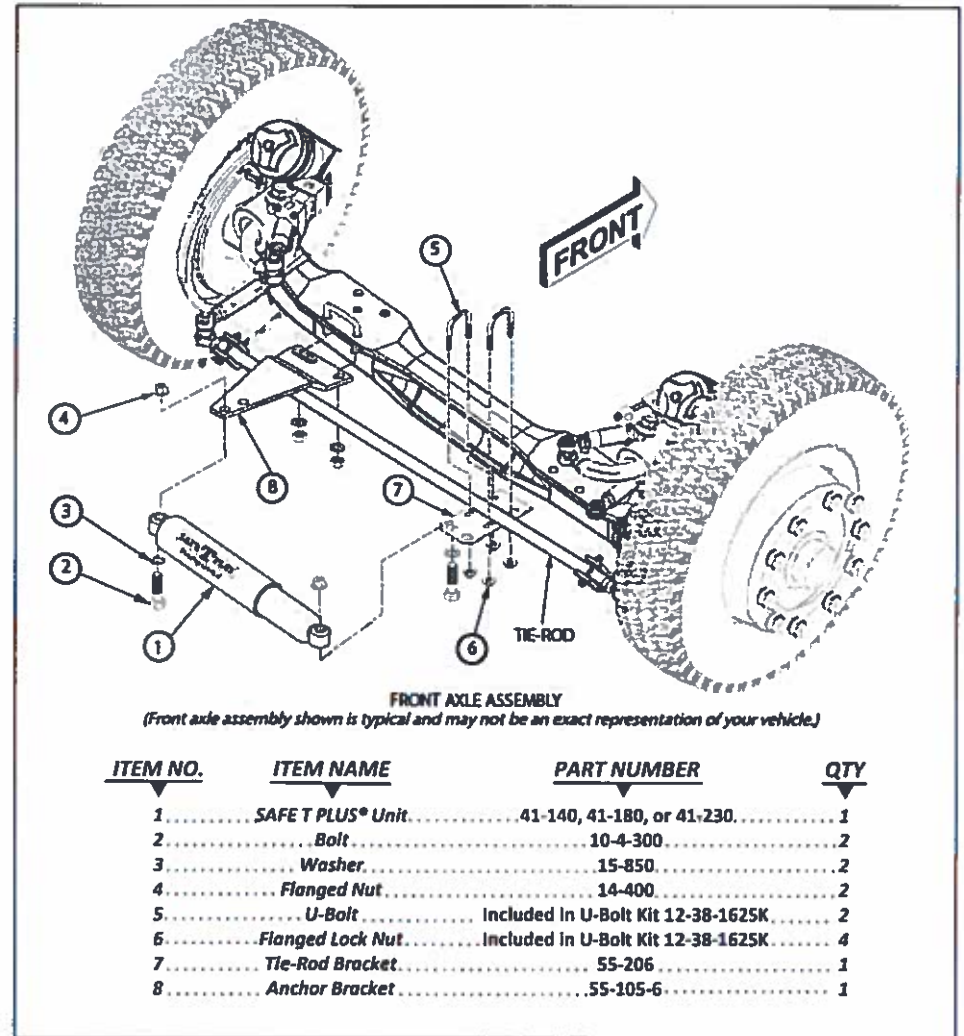

Figure 1. SAFE T PLUS® Unit and Attaching Hardware Installation Diagram
- Refer to *Figure 1* to familiarize yourself with hardware orientation and installation.